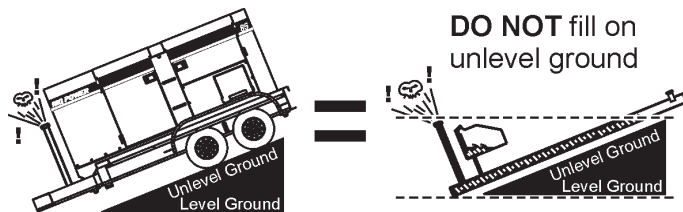

Figure 36. Only Fill on Level Ground
1. **Level Tanks** – make sure fuel cells are level with the ground. Failure to do so will cause fuel to spill from the tank before reaching full capacity. See Figure 36.